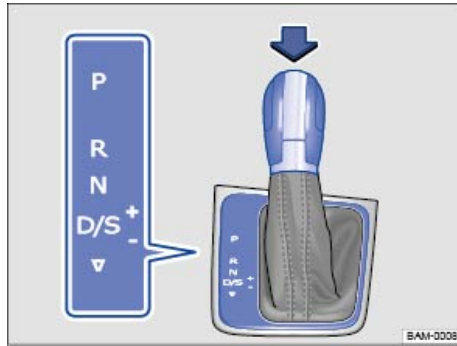

Fig. 135 Automatic transmission selector lever with shift lever release button (arrow).
Automatic transmission vehicles have an Automatic Shift Lock (ASL). With ASL, you must switch on the ignition, depress the brake pedal and hold it down while pressing the release button on the selector lever handle in the direction of the arrow ⇒ fig. 135 to move the selector lever out of Park (P) and into a drive gear. When the selector lever is in Neutral (N), you also have to depress the brake pedal before you can move the selector lever to position (D/S), or Reverse (R).